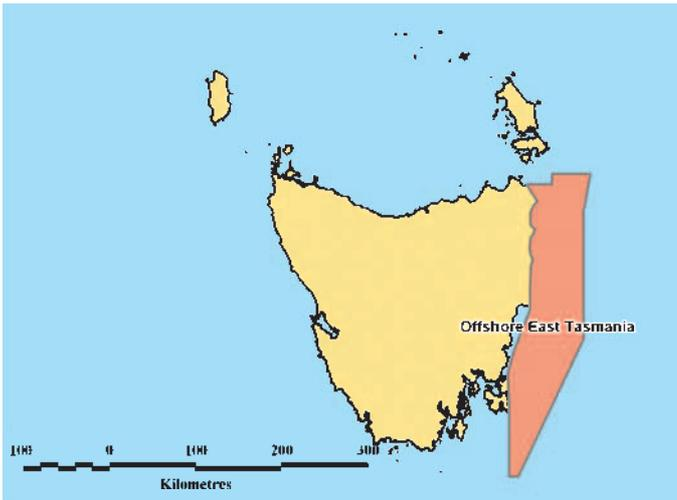

Fig. 13. Location diagram for the Offshore East Coast Tasmania airborne mag/rad survey.
1.5 million line kilometres of data will be collected over an area of approximately 342 000 km² with line spacings of 200 m, 400 m, or 800 m. Figure 13 shows a new survey off the east coast of Tasmania which will cover an area of 19 570 km² with 800 m line spacing data.
| Offshore East Coast Tasmania | MRT | TBA | TBA | 30 895 | 800 m 90 m E–W | 19 570 | TBA | TBA | This issue (Figure 13) | TBA |